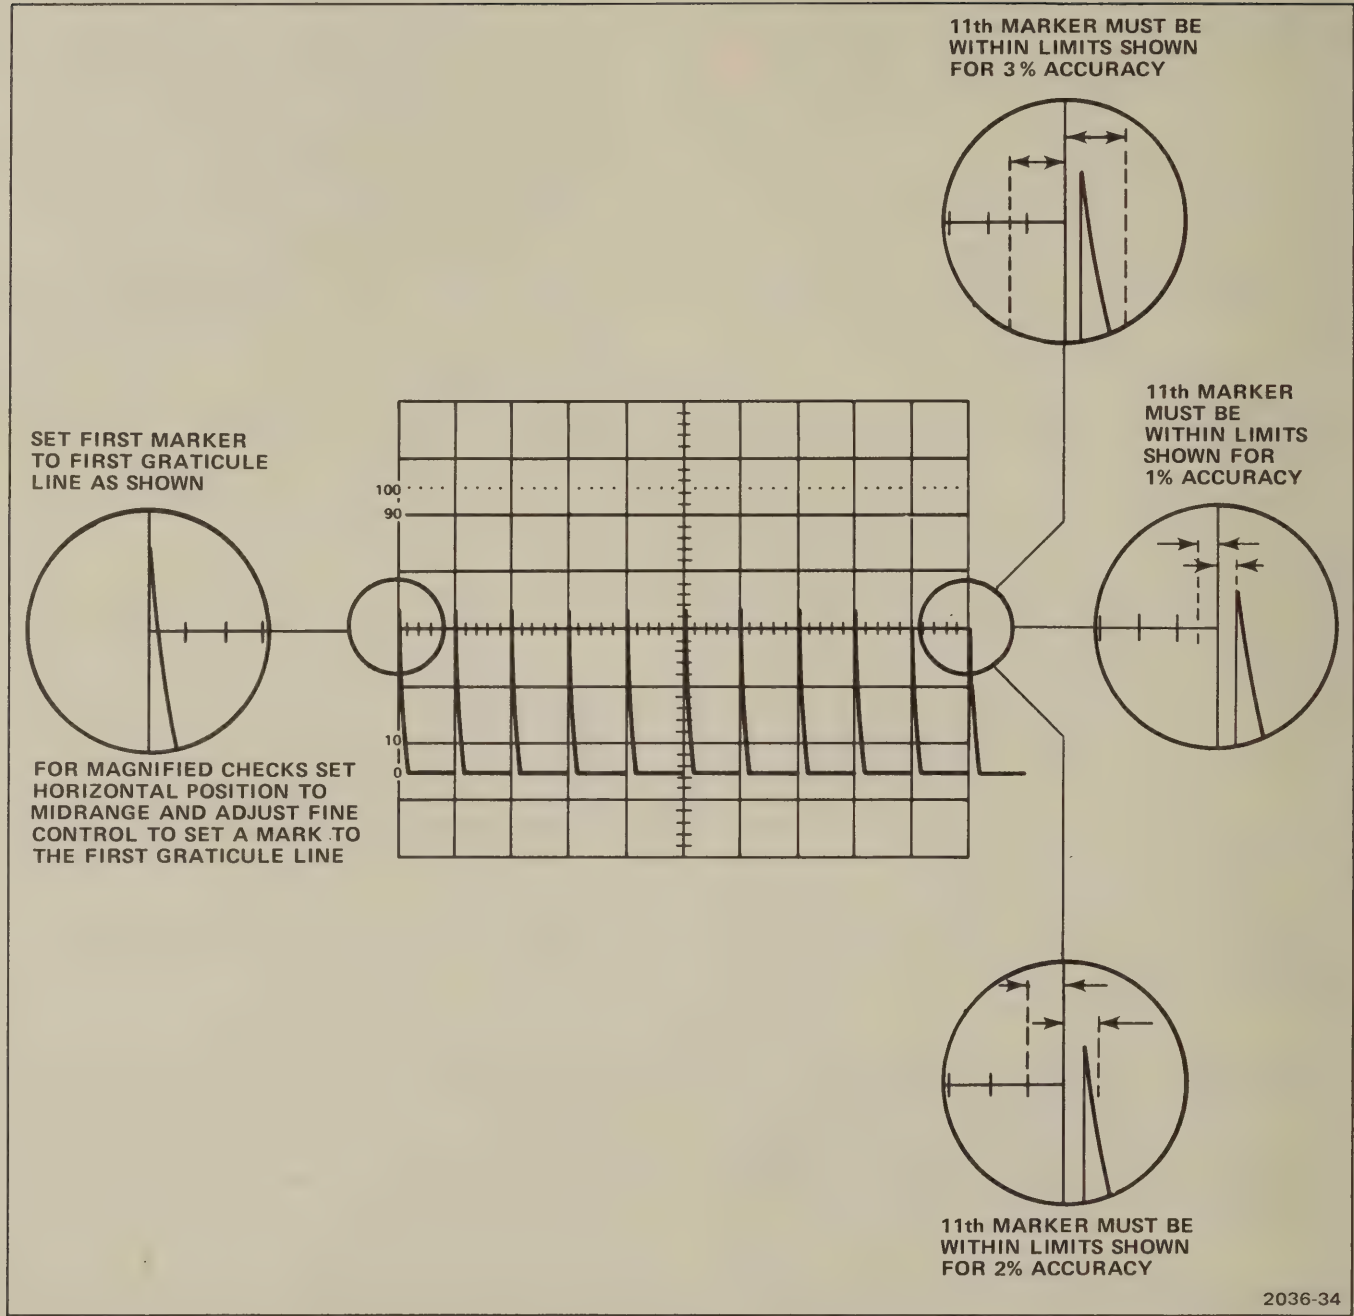

Fig. 6-9. Timing accuracies.
- g. **CHECK**—The eleventh time marker is within 0.2 divisions (2%) of the eleventh vertical graticule line (see Figure 6-9).
- m. **CHECK**—Eleventh time marker is within 0.2 division of the eleventh vertical graticule line (see Figure 6-9).
j. Set first displayed timer marker to first vertical graticule line (see Figure 6-9).
k. **CHECK**—Eleventh time marker is within 0.2 division (2%) of the eleventh vertical graticule line (see Figure 6-9).
Unless otherwise stated, set POSITION and FINE (HORIZ) controls so the first time marker coincides with the first graticule line and check the error at the last graticule line (see Figure 6-9).
- b. **CHECK**—Timing accuracy is within 1% at TIME/DIV settings from .01 μ s to 5 ms (see Figure 6-9).
- c. **CHECK**—Timing accuracy is within 2% at TIME/DIV settings from .05 μ s to .5 s (see Figure 6-9).